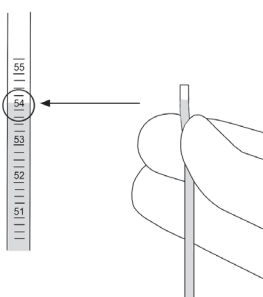

Figure A-4
3. Bring the end of the distal catheter level with the fluid level in the manometer (Figure A-4).